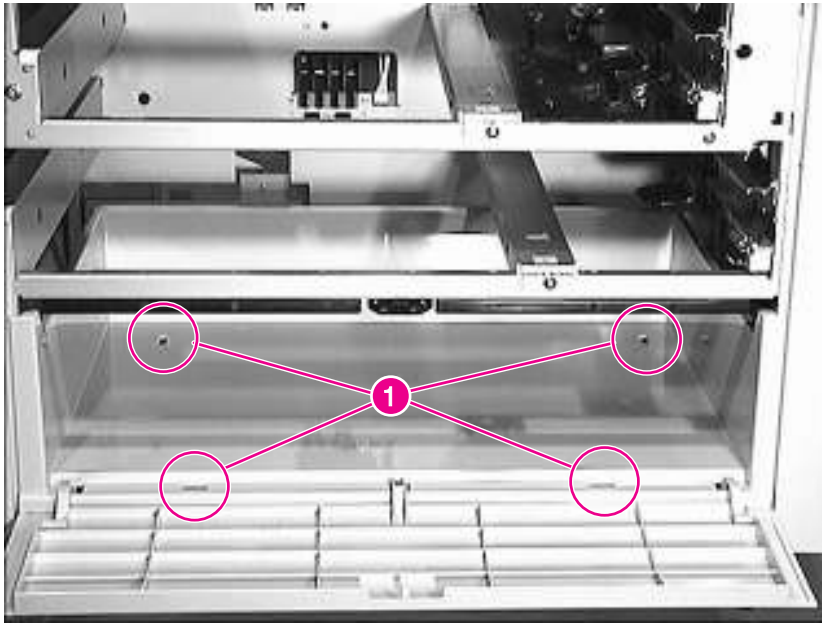

Figure 6-106 Storage Paper Tray
- 3 Use a flat-blade screwdriver to release the tabs inside the holes indicated in figure 6-106 (callout 1).